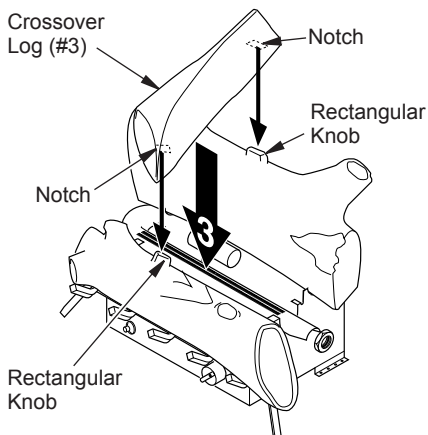

Figure 20 - Installing Crossover Log
3. Locate the notches in the bottom of the crossover log (#3). Place the crossover log on top of the back log and front log. Make sure the notches of the crossover log line up with rectangular knobs on top of the back and front logs (see Figure 20).